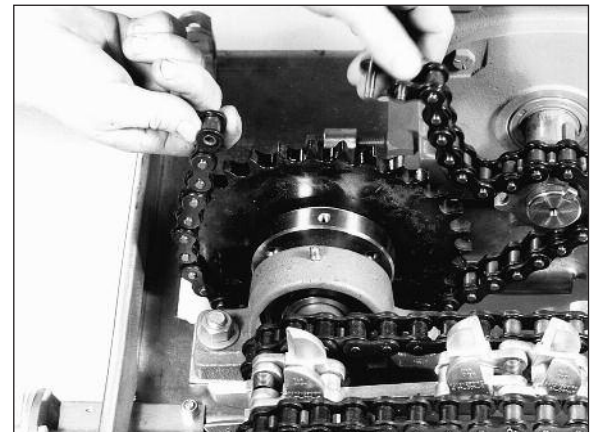

Figure 12
- Make sure drive chain between gear reducer and driven shaft is disconnected (See **Figure 12**).
- Reconnect drive chain gear reducer and driven shaft on drive unit (See **Figure 12**.)